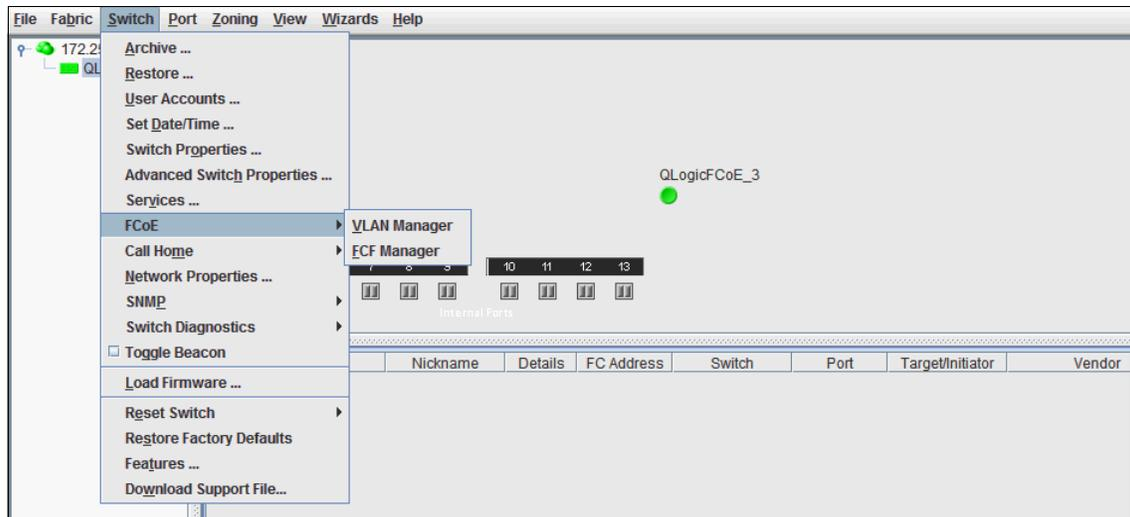

Figure 6-23 Virtual Fabric Extension Module GUI
2. To access the VLAN Manager, select **Switch** → **FCoE** → **VLAN Manager** (Figure 6-23).